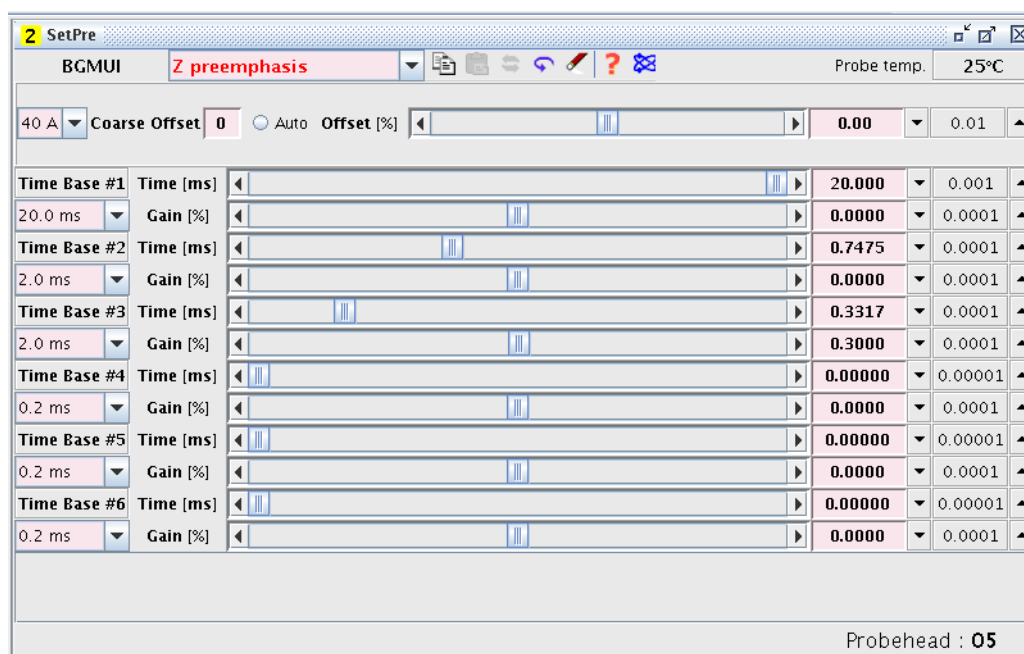

Figure 8.1 Preemphasis Control.
- The first row in Figure 8.1 shows the type of gradient generation hardware connected, here the *BGMUI*. This is followed by the selected channel for adjustment, then actual gradient coil temperature.